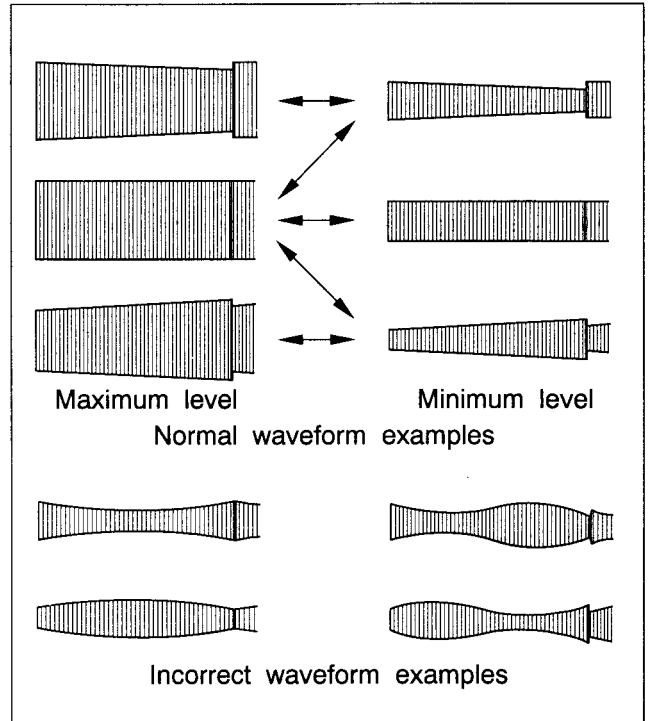

Fig. 2-7-1
- (1) Connect the oscilloscope to TP6(PB FM) on the PRE/REC board.Use TP11(D.FF) on the PRE/REC board as a trigger.
- (2) Playback the SP stairstep portion of the alignment tape [MHPE].Confirm that the FM waveform appears as indicated in Fig.2-7-1.
- (3) Set the manual tracking position by pressing the **///** button on the remote controller or TV PROG "-" and "+" buttons simultaneously.
- (4) Operate the tracking adjustment (press the TV PROG buttons during playback) and set for maximum playback FM waveform.
- (5) By operating the TV PROG button, vary the FM waveform from maximum to minimum and vice versa to confirm that the waveform varies nearly in a flat shape as shown in Fig.2-7-1.